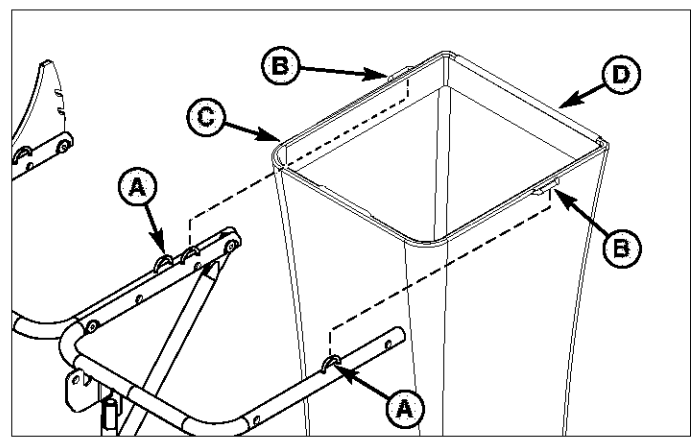

Figure 11. Bag Installation
1. Install bag (C, Figure 11) with white bar (D) toward the rear. Set bag hoops (B) on bag support hoops (A) as shown. Repeat for other side.